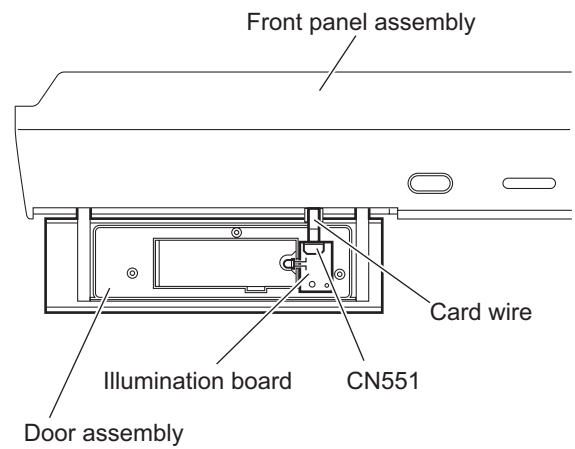

Fig.19
- (2) Disconnect the card wire from the connector **CN551** on the illumination board. (See Fig.19.)
- (3) Take out the illumination board from the door assembly.